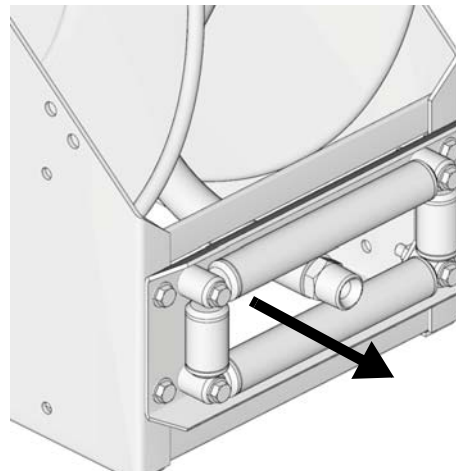

FIG. 16
- Route end of the hose through the hose rollers (FIG. 16).